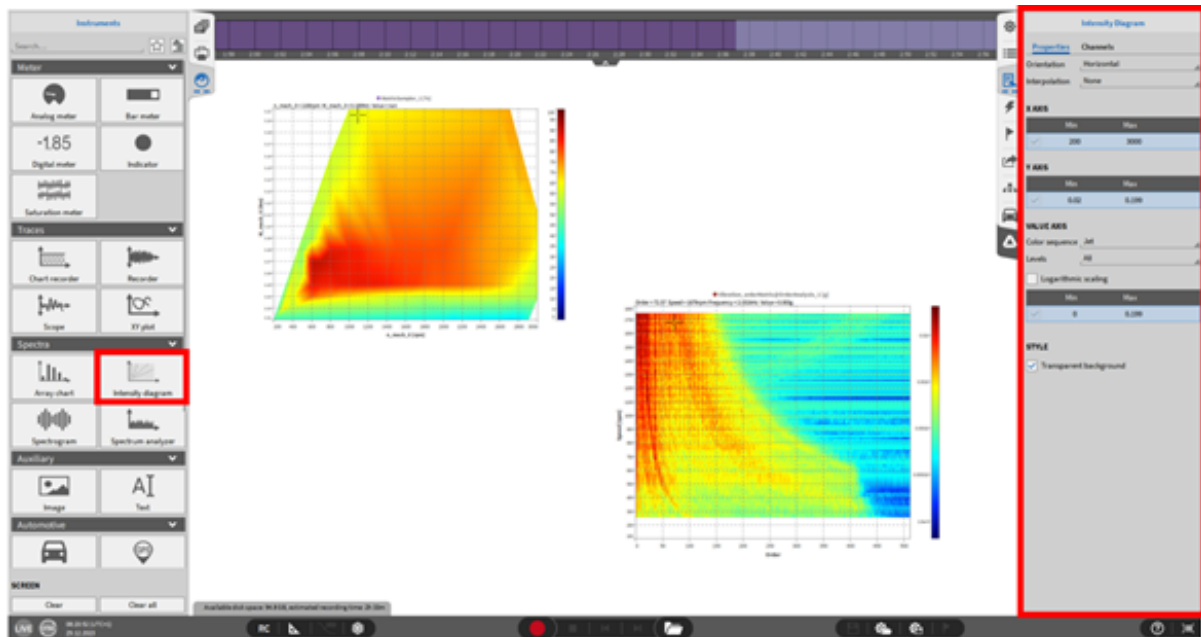

Fig. 8.96: Intensity Diagram instrument - overview
- Select levels to have a more defined grading in the matrix. Select the number of levels which should be defined with a black border. The matrix on the left in Fig. 8.96 shows no grading and the matrix on the right has a 10-level grading.